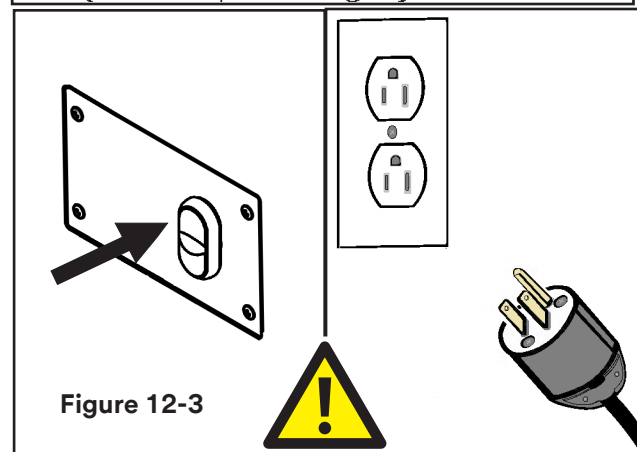

Figure 12-3
Turn the main switch ON (I) after the EMERGENCY BUTTON is released (Figure 12-3).
Before carrying out any cleaning or maintenance operation, stop the machine by turning OFF (O) switch on the main and disconnect electric power (Figure 12-3).